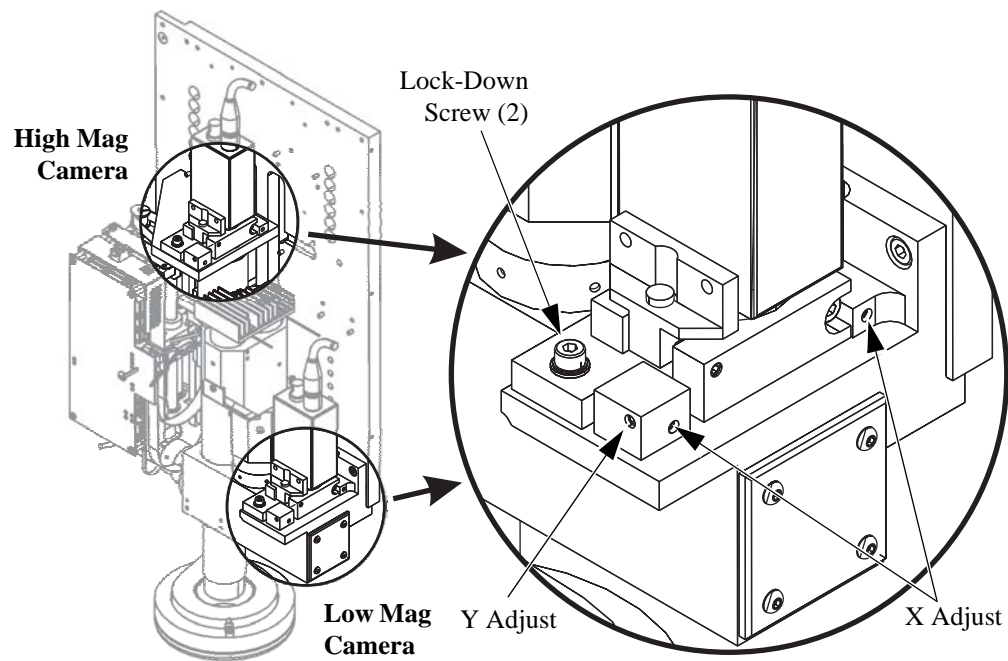

Figure 8-12 Camera Par-Center Adjustment
6. Loosen the High Mag camera position lock-down screws and adjust the X and Y direction set screws (see Figure 8-12) until the upper-right corner of the reticle square is aligned to the Crosshair Finder, within $\pm 0.005 \text{ mm}$ ($\pm 0.0002''$). Make sure the finder is at the "X = 0, Y = 0" location.
10. Loosen the Low Mag camera position lock-down screws, and adjust the X and Y direction set screws (see Figure 8-12) until the upper-right corner of the reticle square is aligned to the Crosshair Finder, within ± 0.005 mm (± 0.0002 "). Make sure the center of the finder is at the “X = 0, Y = 0” location.